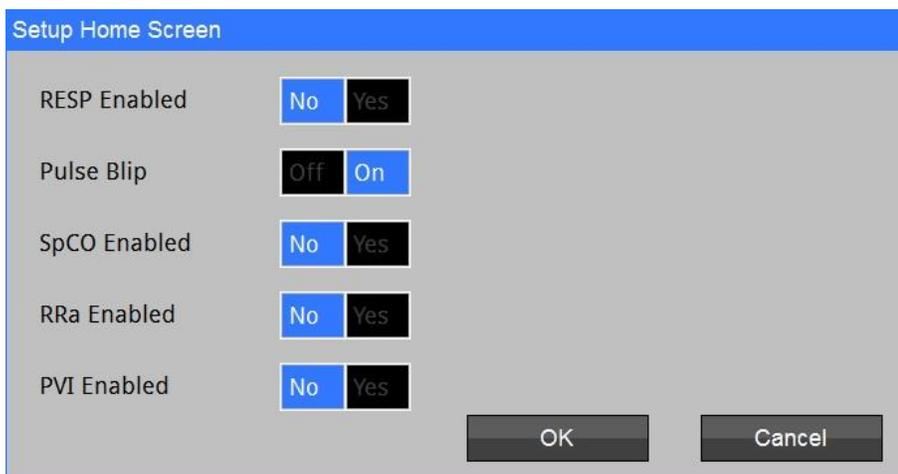

Figure 15: Setup Home Screen
- b. Touch the **Home Screen** button and the Setup Home Screen will be displayed. Refer to Figure 15.